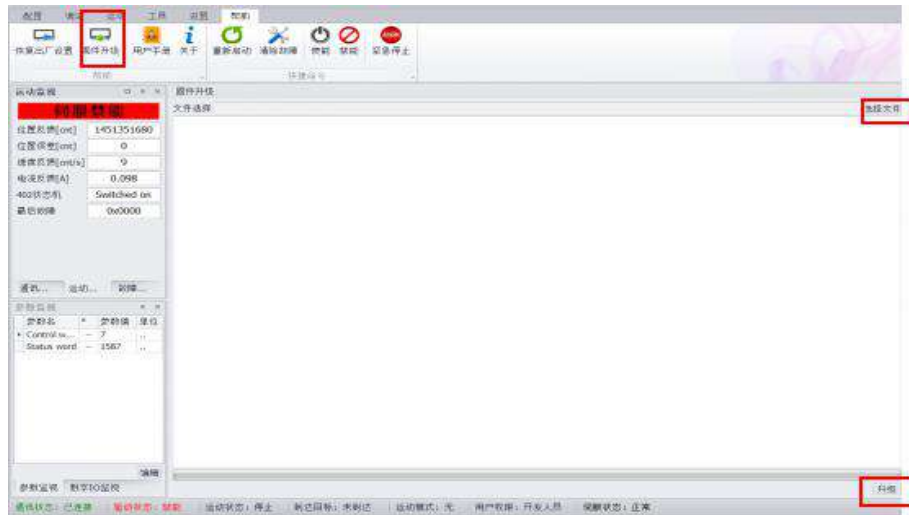

Figure 6-16 Firmware upgrade
1. Select **"Help"** in the main menu, and click **"Firmware Upgrade"** to open the firmware upgrade interface, as shown in Figure 6-16.